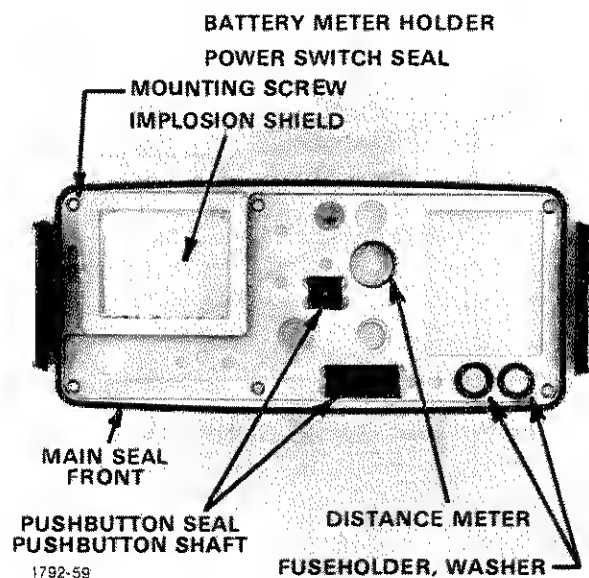

Fig. 5-5 Subpanel, identification of parts for steps 1 through 7.
1. Preparation of the Subpanel for further assembly (see Fig. 5-5)
6. Installation of rubber seals in two grooves located on the outer (see Figs. 5-5 and 5-6) edges of the front and rear sides of the Subpanel
7. Install the implosion shield and its retainer on the Subpanel (see Figs. 5-5 and 5-7)